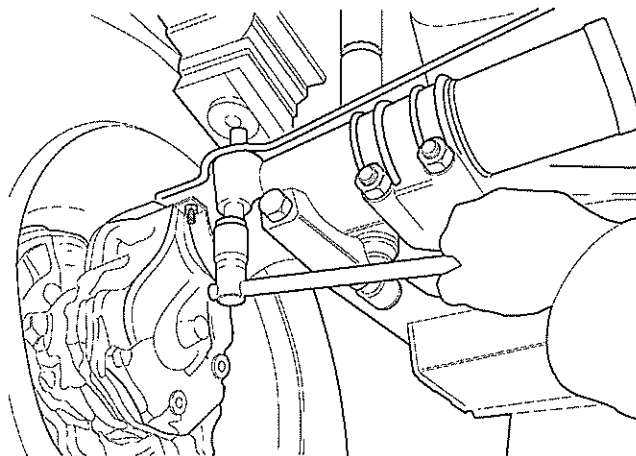

Fig 2 Spring support bolts
4.3 Unscrew both leaf spring support bolts by 15 - 20 mm (see Fig 2).